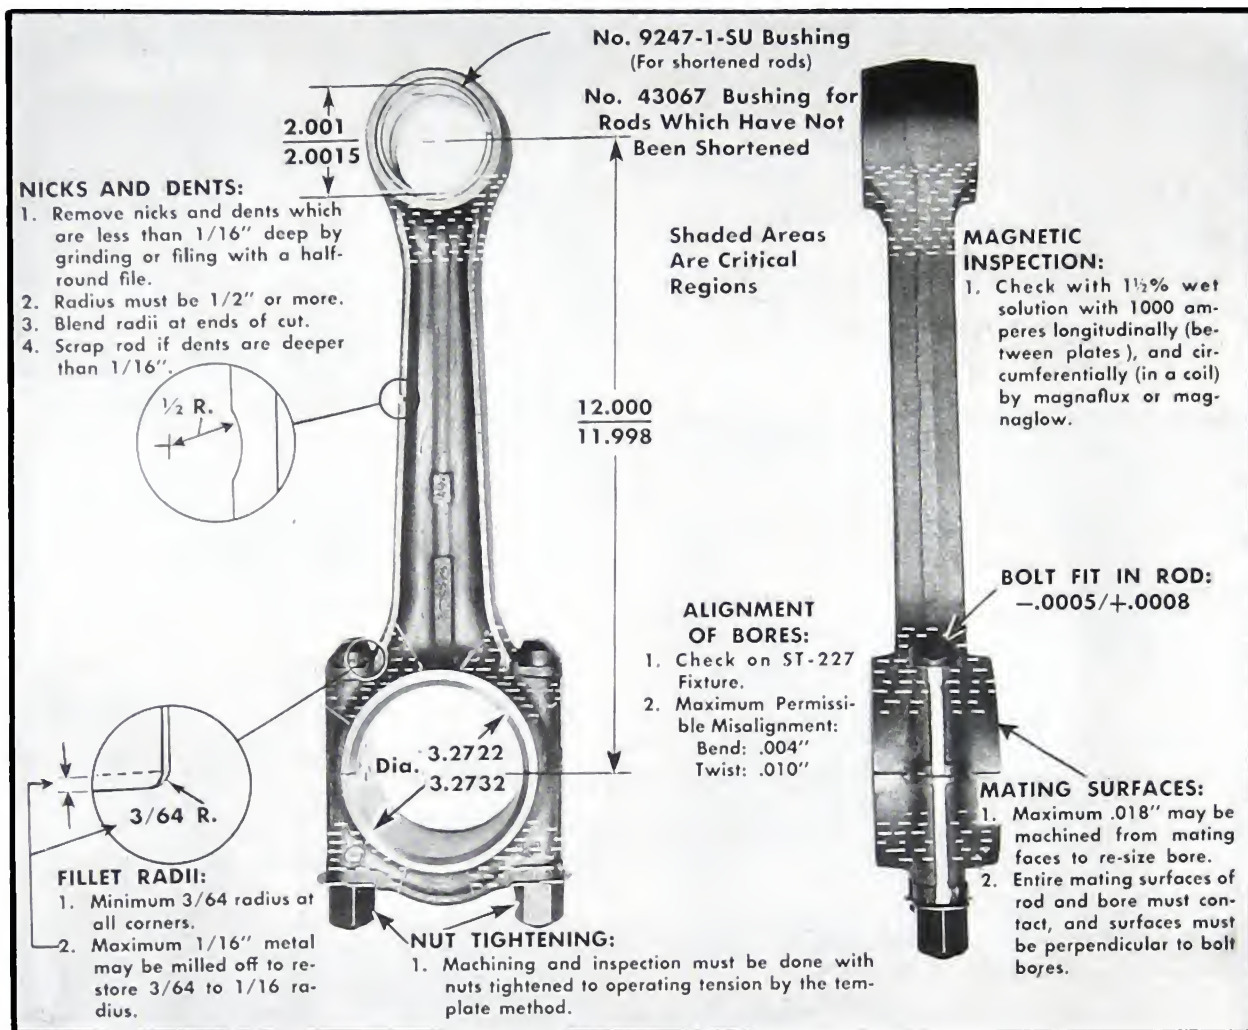

Fig. 2-35. Connecting rod specifications
2. If the fillets have been removed by filing, they can be restored by milling off an additional 1/16" maximum metal to restore the fillet as shown in Fig. 2-35.
3. Sharp nicks or dents can contribute to rod breakage. Remove dents which are less than 1/16" deep by grinding with a one-half inch radius wheel or by filing with a half-round file. See sketch, Fig. 2-35.